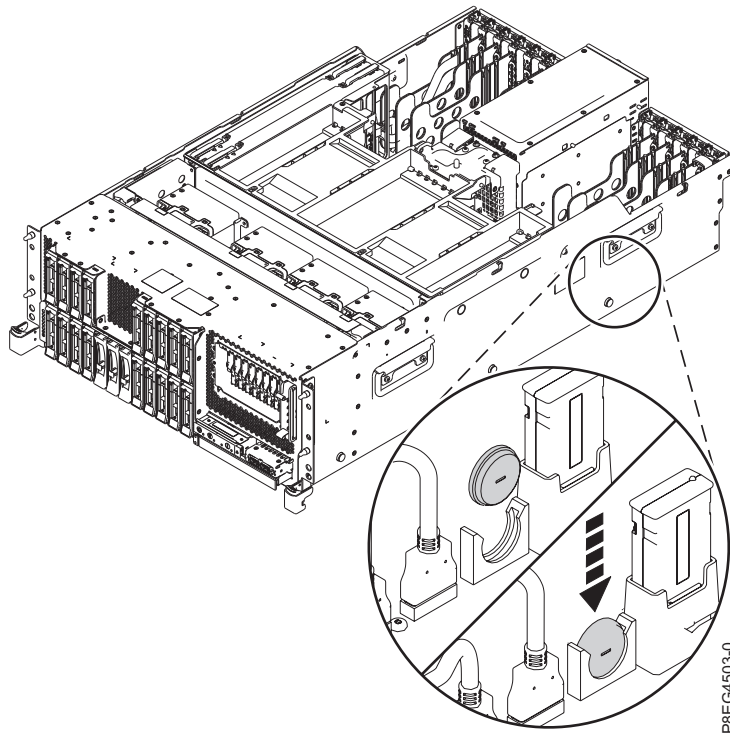

Figure 2. Inserting the time-of-day battery
2. Insert the time-of-day battery in the slot on the system backplane, as shown in Figure 2 on page 5. Ensure to insert the battery with the correct polarity as recorded during removing of the battery.